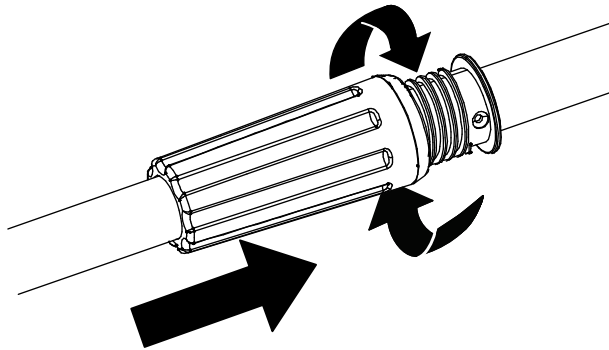

Figure 5
3. Slide the collar on the handle pole section upwards and turn it clockwise to secure the sections together (Figure 5).